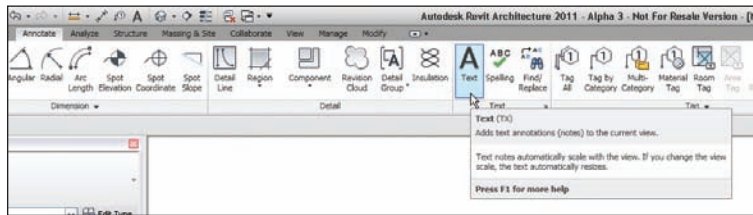

FIGURE 5.47 Click the Text button on the Text panel of the Annotate tab.
3. On the Text panel of the Annotate tab, click the Text button, as shown in Figure 5.47.